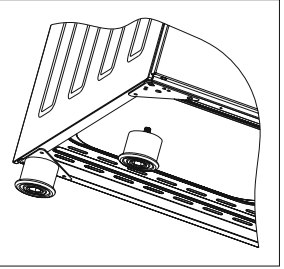

Figure 12
3. If your oven has plastic food as in (Figure 12) you can adjust your oven's height from these feet as turned clockwise or anticlockwise.